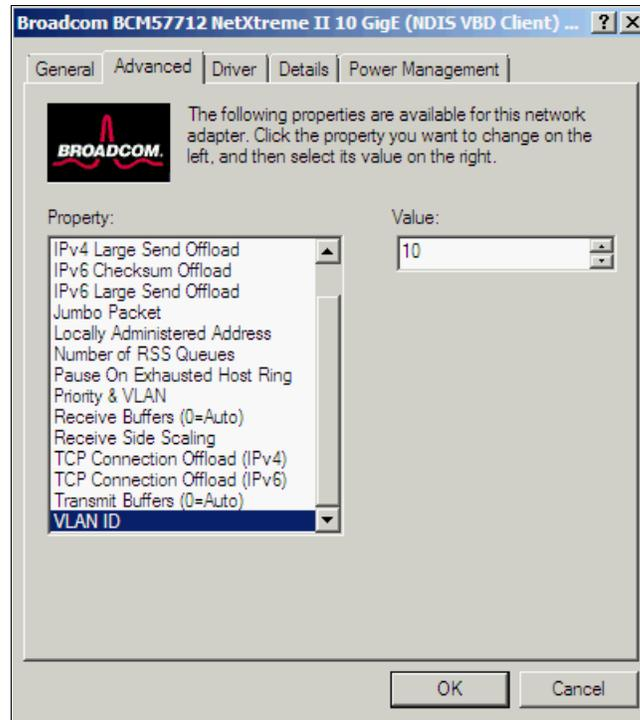

Figure 10-56 VLAN ID configuration
3. On the **Advanced** tab (Figure 10-56), in the Property box, scroll down to and select **VLAN ID**. Set the VLAN ID value to **10**. Click **OK**.